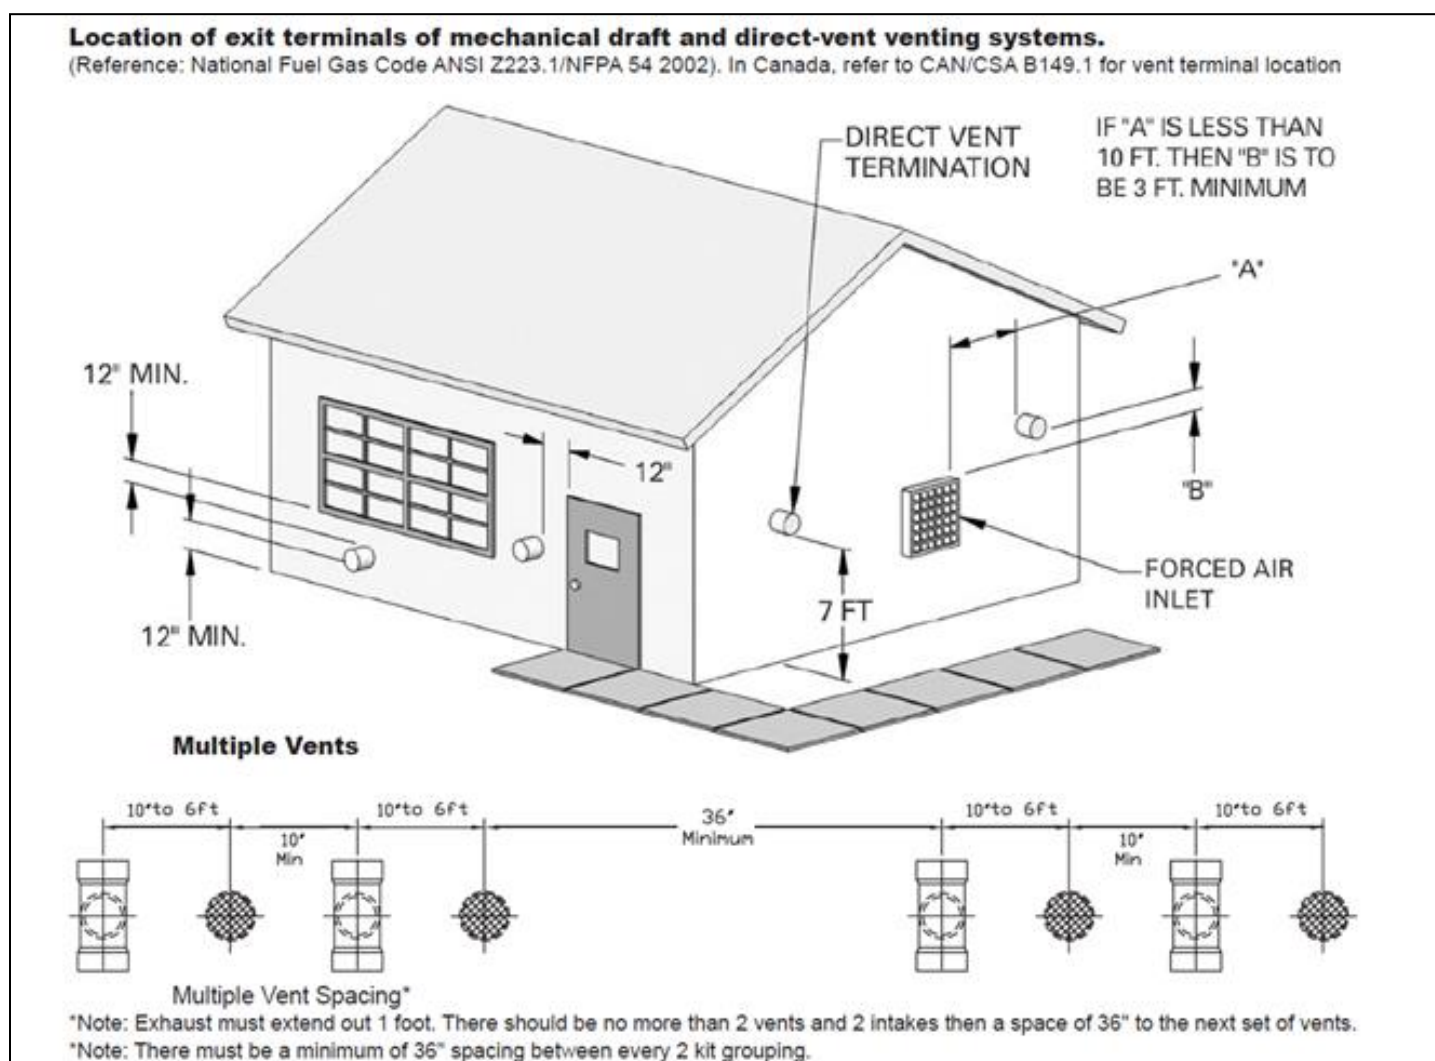

Figure 12
- Follow required minimum clearances located in Figure 12.